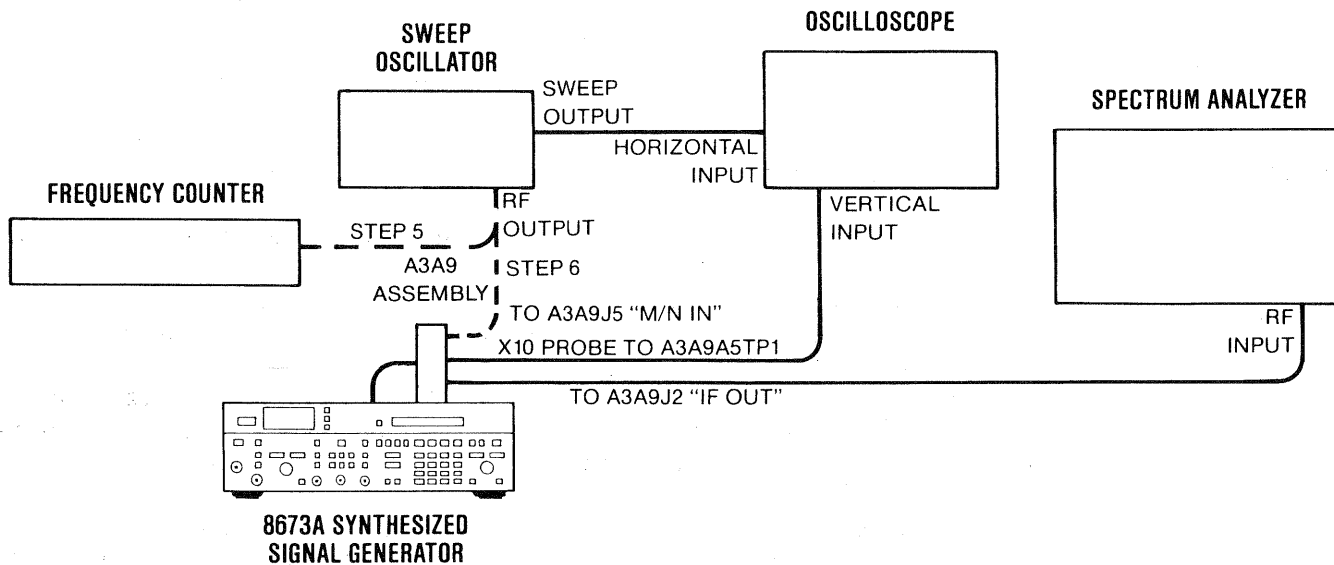

Figure 5-8. YTO Loop Sampler Adjustment Test Setup
6. Connect the equipment as shown in Figure 5-8. Connect the Signal Generator's mains power cord and set the LINE switch to ON.